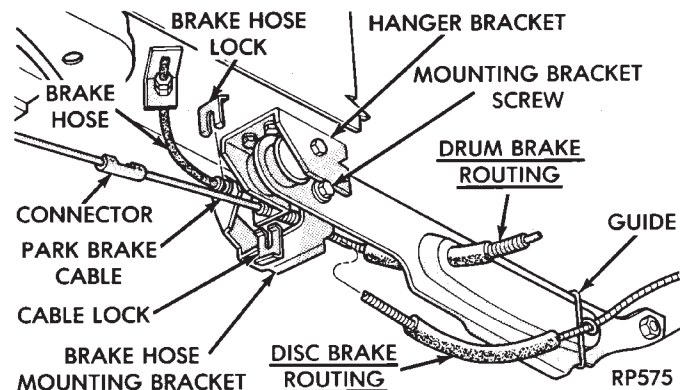

Fig. 7 Reconnect Brake Tube and Park Brake Cable
(1) Position caliper support and spindle to axle. Install the 4 spindle mounting bolts finger tight. Then torque the 4 spindle mounting bolts to 75 N•m (55 ft. lbs.) torque.
(2) Install hub and bearings.
(3) Install washer and nut. Tighten to 27-34 N•m (240-300 in. lbs.) torque while rotating hub. Then back off nut to completely release preload. Finger tighten nut.
(4) Position nut lock with one pair of slots in-line with cotter pin hole. Install cotter pin. Clean and install grease cap.
(5) Install braking disc and adapter. Install caliper assembly (see Rear Disc Brake) in Brakes Section, Group 5.
(6) Attach brake hose and parking brake cable to caliper and suspension arm (Fig. 7). Install brake hose mounting bracket to caliper support.
(7) Route park brake cable through hanger bracket and lock housing end into bracket. Install cable end into (intermediate) connector (Fig. 7).
(8) Install brake hose and fitting into bracket and install lock. Attach brake tube assembly to hose fitting and tighten to 16 N•m (140 in. lbs.) torque (Fig. 7).
(9) Install wheel and tire assemblies and tighten wheel stud nuts to 129 N•m (95 ft. lbs.) torque. Remove jacks and lower vehicle.
(10) With suspension supporting vehicle tighten lower shock absorber bolts to 61 N•m (45 ft. lbs.) torque and track bar bolt to 95 N•m (70 ft. lbs.) torque.
(11) Bleed brake system. See BRAKES, Group 5.